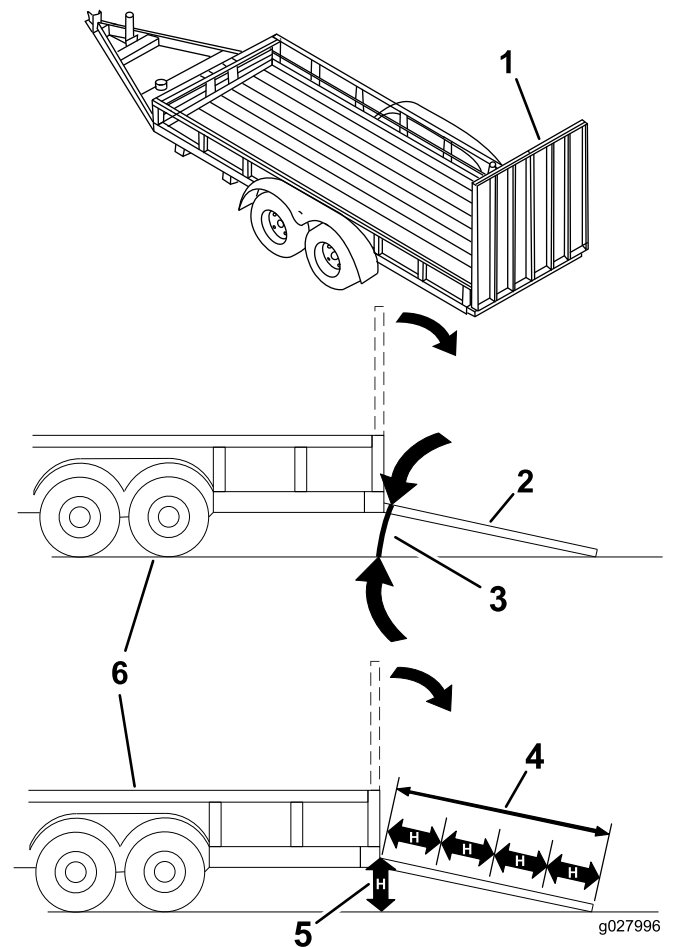

Figure 35
Loading a machine onto a trailer or truck increases the possibility of tip-over and could cause serious injury or death (Figure 35).
3. Lower the ramp, ensuring that the angle between the ramp and the ground does not exceed 15 degrees (Figure 35).
1. Lower the ramp, ensuring that the angle between the ramp and the ground does not exceed 15 degrees (Figure 35).